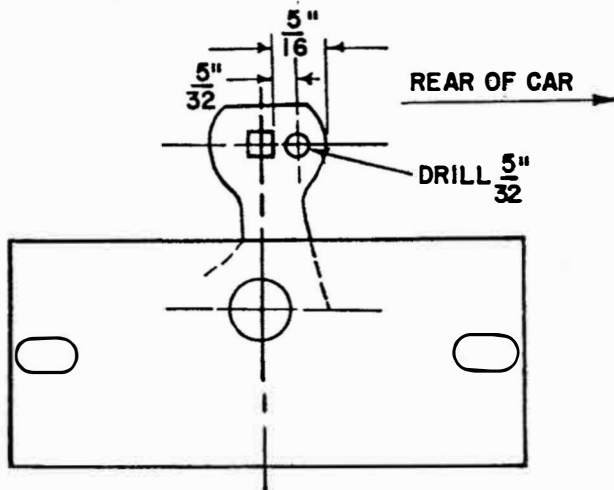

Fig. 3
3. Relocate the remote control wire hole  $5/32$ " toward the rear of the remote control (see Fig. 3).